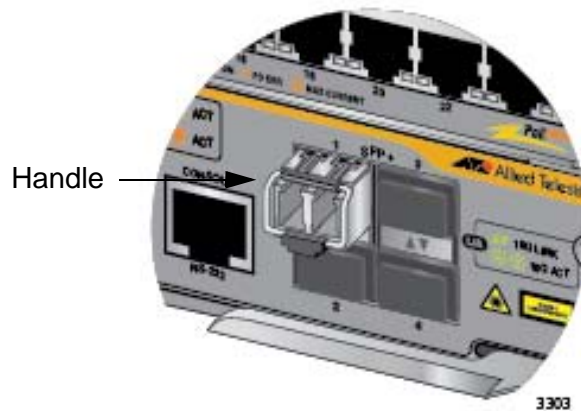

Figure 113. Positioning the Handle on the Transceiver
5. Verify the position of the handle on the transceiver. If the transceiver is in slot 1 or 3, the handle should be in the upright position, as shown in Figure 113. If the transceiver is in slot 2 or 4, the handle should be in the down position.